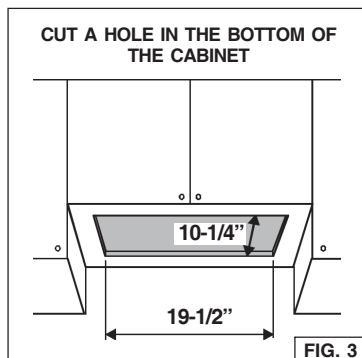

FIG. 3
2. Cut a hole in the bottom of the cabinet, using the dimensions shown (Fig. 3).